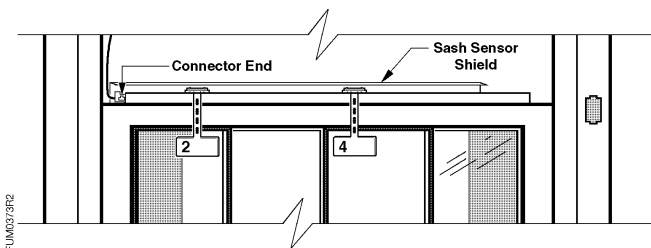
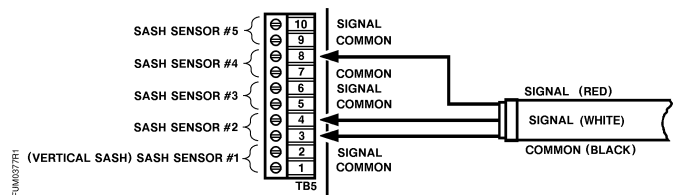

Figure 30. Sash Sensor on Combination Fume Hood.
Figure 31. Wire terminations for sash 2 and 4 (for Figure 30)
7. See Figure 31 for the hood setup wiring in Figure 30.